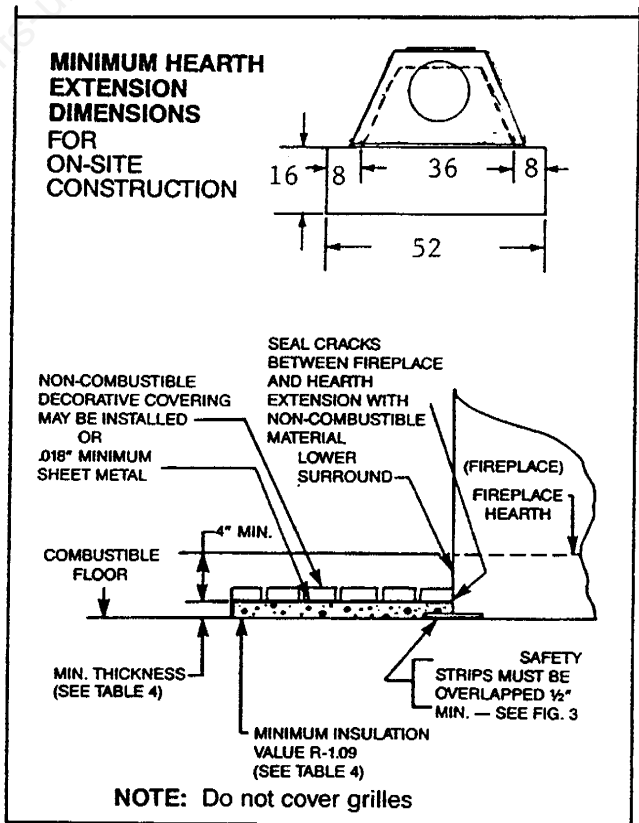

FIGURE 23
A hearth extension is required to protect combustible floor construction in front of the fireplace. Use a Hearth Extension design built in accordance with Fig.23.
The hearth extension described in Fig. 23 must be a durable non-combustible material with a minimum (total) RT value of 1.09. (See Table 4 for examples.) The overall height (above combustible floor), depth and width must be as indicated with it centered to the fireplace opening. (See Fig. 23.)
The top of the insulation must be covered with a non-combustible decorative covering or a piece of .018" minimum sheet metal, to protect the hearth extension material. (See Fig. 23).
Secure the hearth extension to the floor to prevent shifting, using trim molding or other similar means at the three (3) outer edges. Seal the crack between the fireplace hearth and the hearth extension with non-combustible material. (See Figs. 23, 24 and 25.)
WARNING: HEARTH EXTENSION MUST BE INSTALLED IN ACCORDANCE WITH FIGS. 23, 24, or 25 AND MUST NOT COVER THE GRILLE OPENING OF THE MODEL.